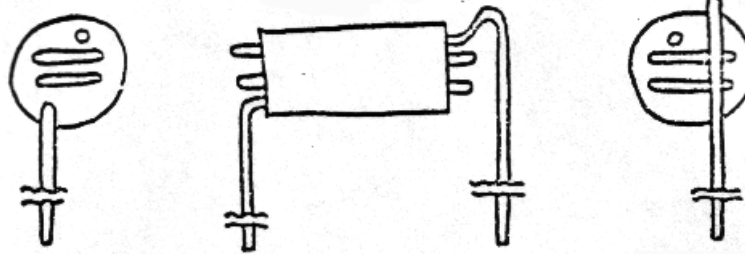

Figure 4
Install the ferrite chokes (2). Make sure the lead wires do not short out any of the turns going through the chokes. Push the chokes down flat against the PC board and solder. See Figure 4. Clip the excess leads close to the PC board.